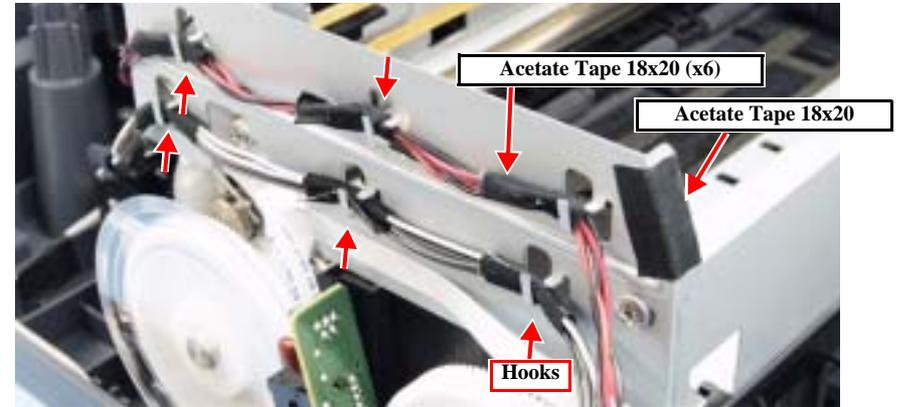

Figure 4-22. Routing the Harness 2
- The harness is routed properly. (Fig. 4-21), (Fig. 4-22)